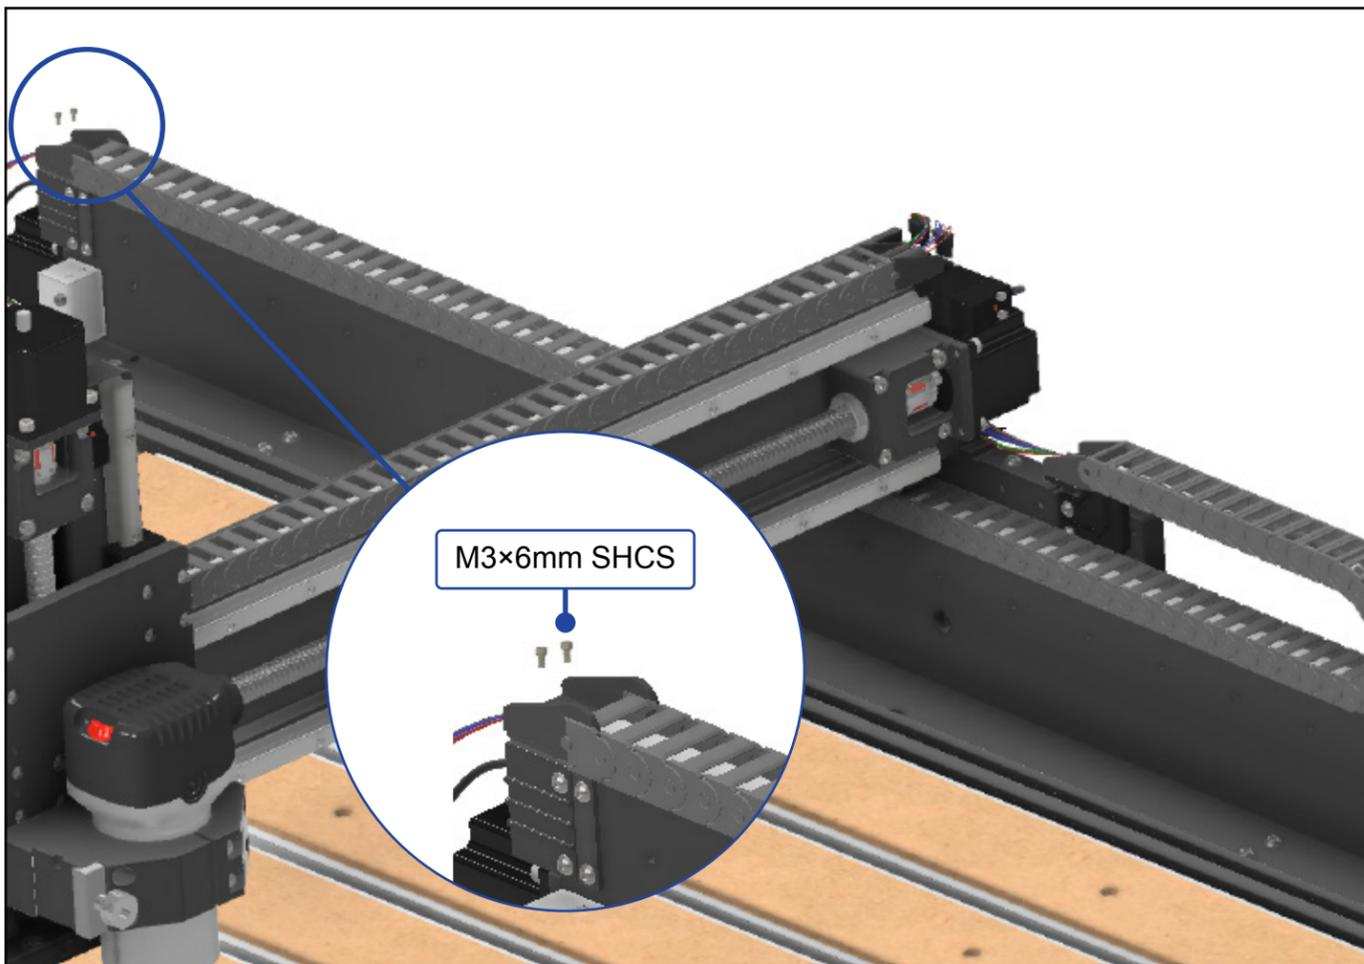

Figure 4-3
6. Use a 2.5mm hex key and two (2) M3×6mm SHCS to secure the tail of the drag chain at the rear of the Y-Right assembly. Fully tighten. See Fig. 4-3.